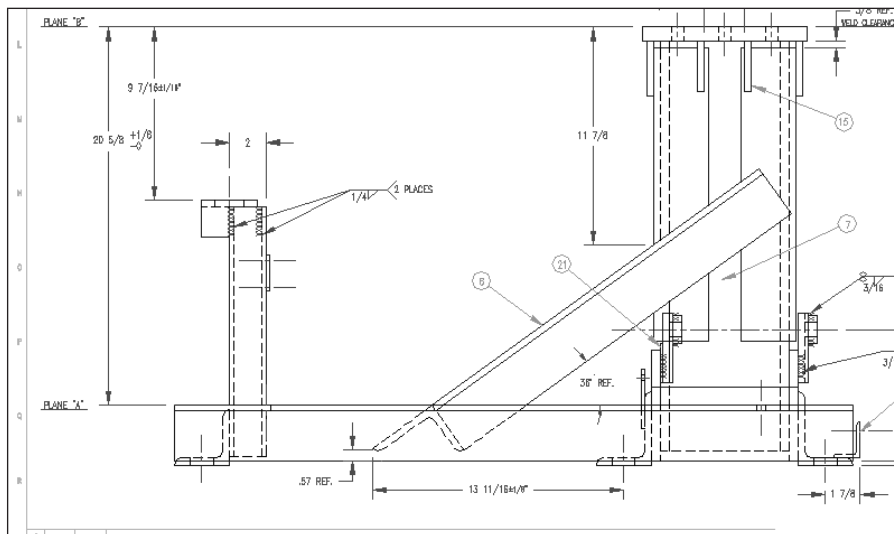

Figure 10-13: The washing machine base
4. Save your drawing. It should look like Figure 10-13.